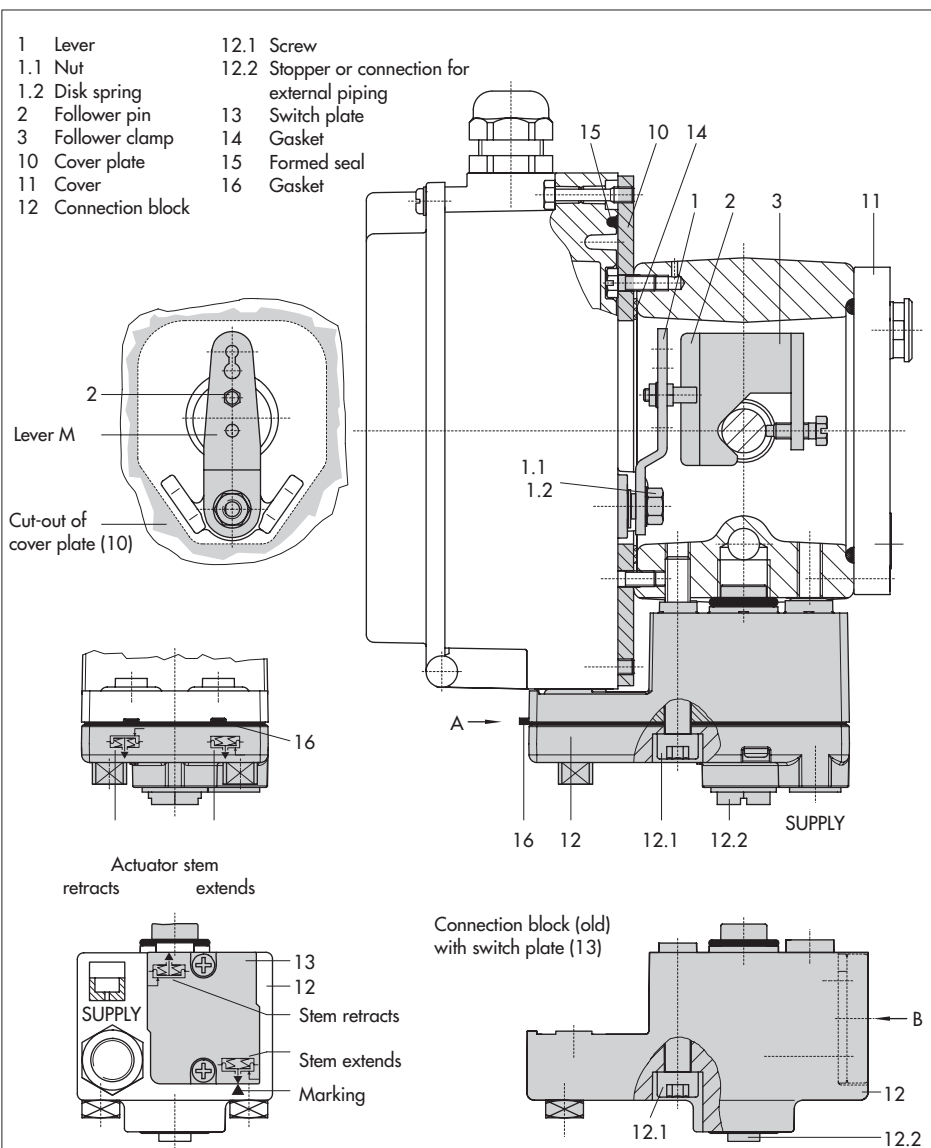

Fig. 4 · Direct attachment – Signal pressure connection for Type 3277 Actuator with 240, 350 and 700 cm2
1. Place follower clamp (3) on the actuator stem, align and screw tight so that the mounting screw is located in the groove of the actuator stem.
2. Mount cover plate (10) with narrow side of the cut-out opening (Fig. 4, on the left) pointing towards the signal pressure connection. Make sure that the bonded gasket (14) points towards the actuator yoke.
3. For actuators with 700 cm2, remove the follower pin (2) at lever **M** (1) on the back of the positioner from pin position **35**, reposition it in the bore for pin position **50** and screw tight.
6. Make sure that the tip of the gasket (16) projecting from the side of the connection block (12) is positioned above the actuator symbol that corresponds with the actuator with fail-safe action "Actuator stem extends" or "Actuator stem retracts." If necessary, remove the three fixing screws and the cover. Then reposition the gasket (16) turned by 180°. The previous version of the connection block (Fig. 4, bottom) requires the switch plate (13) to be turned such that the corresponding actuator symbol points to the marking.
7. Place the connection block (12) with the associated seal rings against the positioner and the actuator yoke. Screw it tight using the fixing screw (12.1). For actuators with fail-safe action "Actuator stem retracts", additionally remove the stopper (12.2) and fit on the external signal pressure piping.
8. Mount cover (11) on the other side. Make sure that the vent plug points downwards when the control valve is installed to allow any condensed water that collects to drain off.